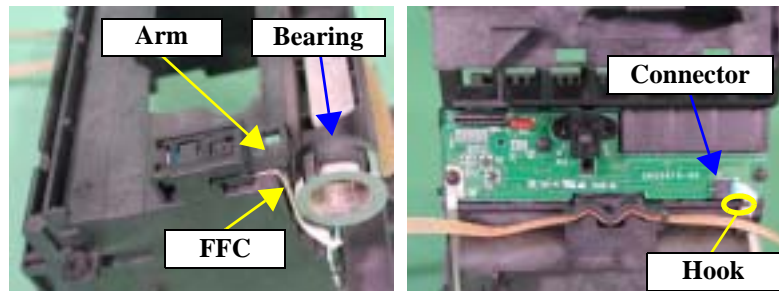

Figure 4-100. Routing the FFC
Refer to Figure 4-100, "Routing the FFC".
- To connect the FFC to the Connector of the CR Encoder Sensor Board, always pass it around the rear side of the Bearing on the left side (as seen from the printer front) of the Carriage Unit and into the hook on the rear left of the Carriage Unit, and return it between the hook and the Connector of the CR Encoder Sensor Board, and connect it to the Connector of the CR Encoder Sensor Board. Refer to Figure 4-100, "Routing the FFC".